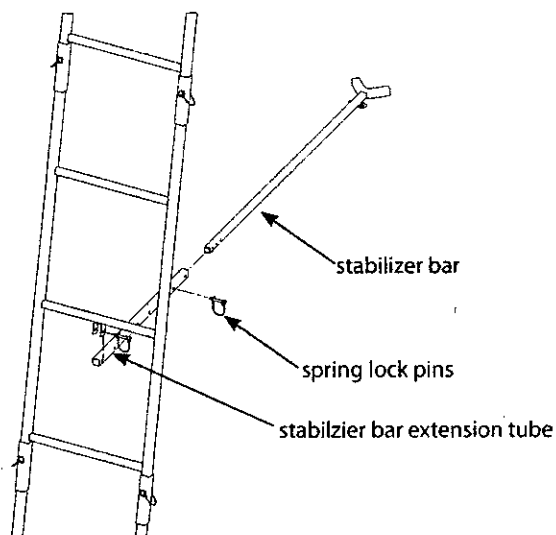

Figure 14
19. a. Attach the stabilizer bar extension tube (1ML23) to the second ladder section mounting bracket using (1) provided spring lock pin. **SEE FIGURE 14.**
- b. Slide the stabilizer bar (L17) into the extension tube and attach the two pieces together using (1) provided spring lock pin. Spring lock pin must go through both the extension tube and stabilizer bar at appropriate hole to achieve desired distance from tree. Adjustment in length may be needed when ladder is uprighted later in instructions. **SEE FIGURE 14.**